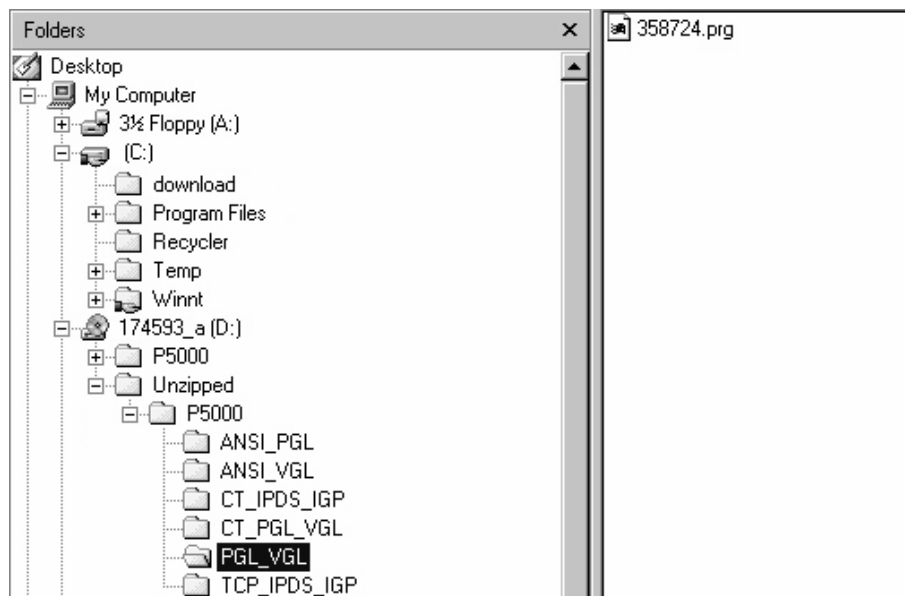

Figure 18. Navigating to the Appropriate Emulation File on the CD
8. Using Windows Explorer, navigate to the appropriate file on the CD (using the Unzipped directory) based on the printer type, model number, and desired emulation, e.g., Unzipped ► P5000 ► PGL_VGL. (See Figure 18.)